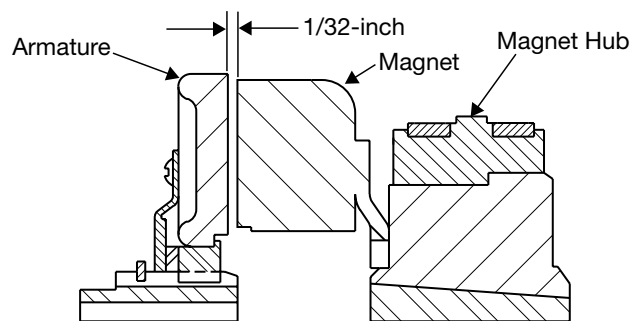

Figure 6
4. Check the assembly by pressing the armature into contact with the magnet face and then releasing it. The armature should spring back about 1/32-inch. This gap will be automatically maintained the life of the unit. (Figure 6)